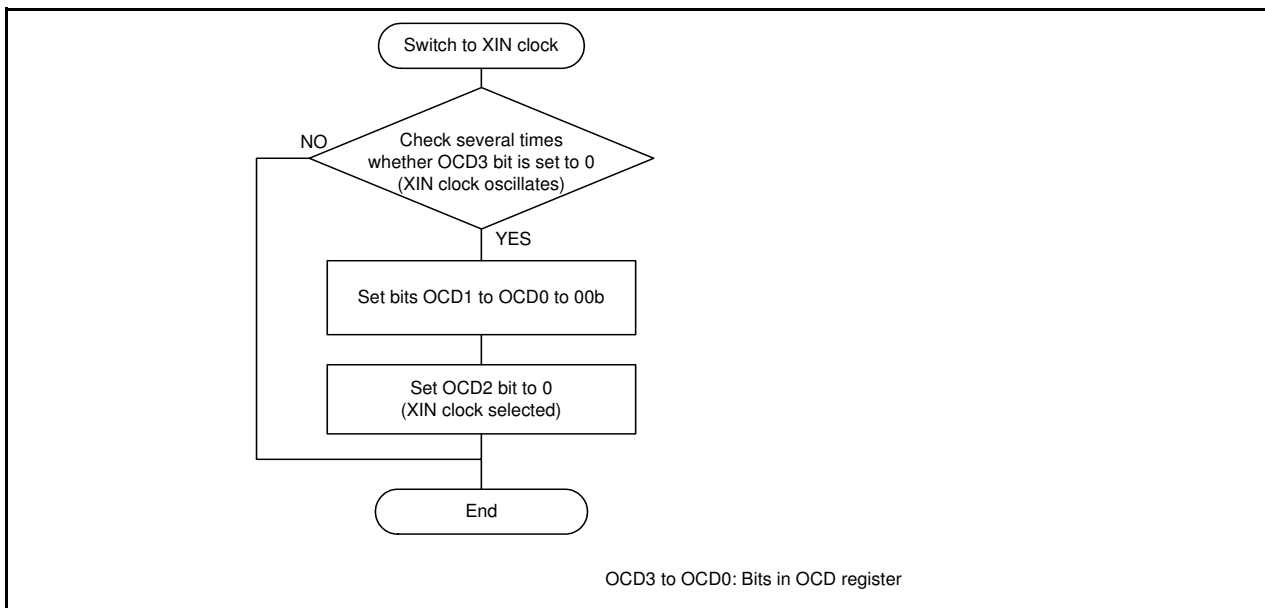

Figure 8.5 Procedure for Switching Low-Speed On-Chip Oscillator to XIN Clock
- When the XIN clock restarts after oscillation stop, switch the XIN clock to the clock source for the CPU clock and the peripheral functions by a program. Figure 8.5 shows the Procedure for Switching Low-Speed On-Chip Oscillator to XIN Clock.